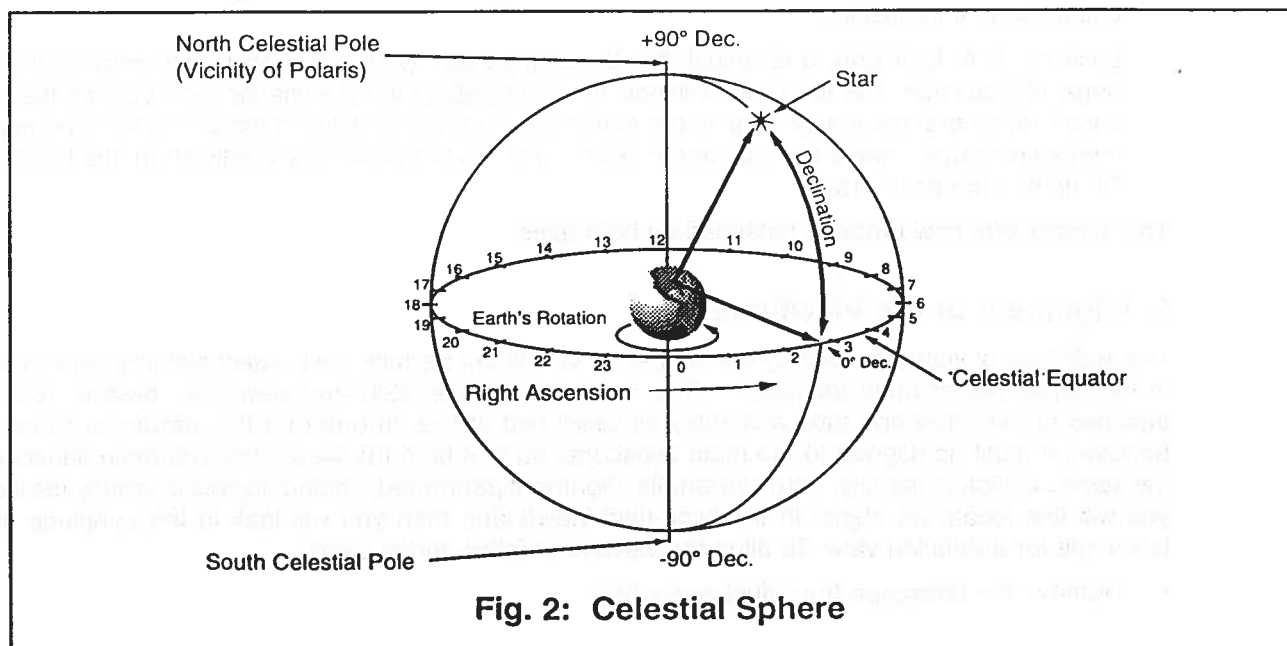

Fig. 2: Celestial Sphere
**Understanding celestial coordinates:** Celestial objects are mapped according to the R.A. and Dec. coordinate system on the "celestial sphere" (Fig. 2) the imaginary sphere on which all stars appear to be placed. The Poles of the celestial coordinate system are defined as those 2 points where the Earth's rotational axis, if extended to infinity, North and South, intersect the celestial sphere. Thus, the North